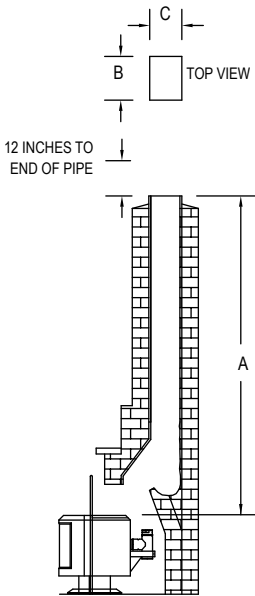

**Figure 7**
6. If it is desired to attach to an existing 6", 7" or 8" DuraTech, DuraPlus or DuraChimney chimney, either roof supported, or ceiling supported: (**Figure 7**).
C. Install a DVL/DuraBlack Chimney Adapter - product stock numbers (6") 8674, (7") 8774, or (8") 8874 - in the existing ceiling support box, as shown in **Figure 7**. Note that the DVL/DuraBlack Chimney Adapter only connects to DuraVent chimney systems.
aligned, carefully drill three 1/8" diameter holes through the outer sleeve only in the center of the slots located at the bottom of the Adjustable Length pipe. Do not penetrate the inner liner. Use (3) 3/8" length sheet metal screws to secure the Adjustable Length pipe. The completed installation will look like **Figure 7**.